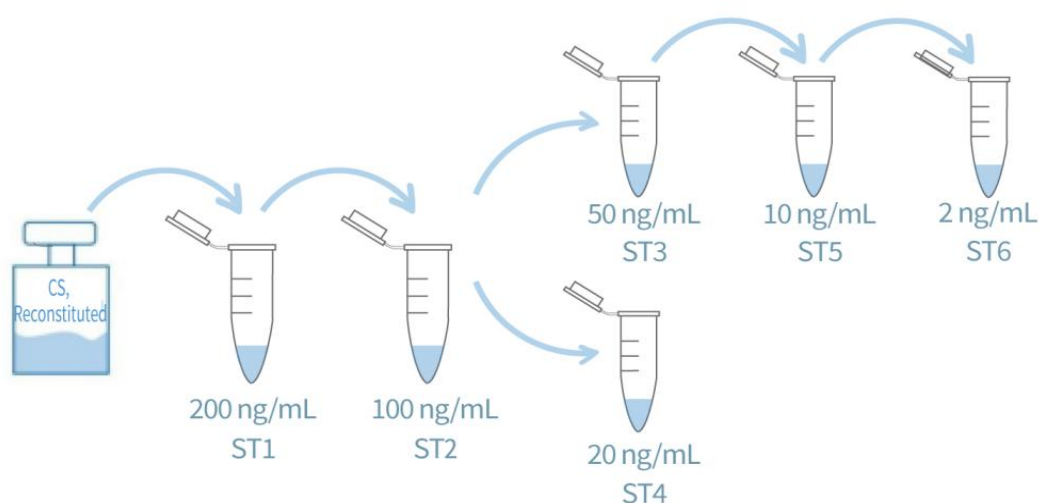

Figure 3. Graphic scheme of *p.pastoris* HCP Calibration Standard solutions
(3) Preparation of Calibration Standard solutions
- Prepare *p.pastoris* HCP Calibration Standard solutions as showed in Fig 3 and Table 3.